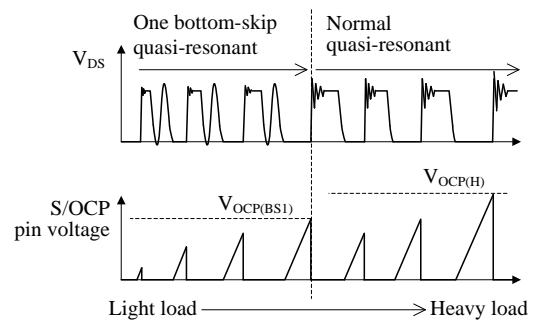
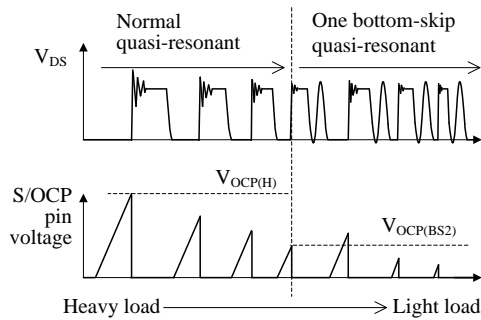

Figure 9-17 Operation state transition diagram from light load to heavy load conditions
Figure 9-18 Operation state transition diagram from heavy load to light load conditions
Figure 9-17 shows the operation state transition diagram of the output load from light load to heavy load. Figure 9-18 shows the state transition diagram from heavy load to light load.
- The mode is changed from one bottom-skip quasi-resonant operation to normal quasi-resonant operation (light load to heavy load). When load is increased from one bottom-skip operation, the MOSFET peak drain current value will increase, and the positive pulse width will widen. Also, the peak value of the S/OCP pin voltage increases. When the load is increased further and the S/OCP pin voltage rises to  $V_{OCP(BS1)}$ , the mode is changed to normal quasi-resonant operation (see Figure 9-17).
changed to one bottom-skip quasi-resonant operation (see Figure 9-18).